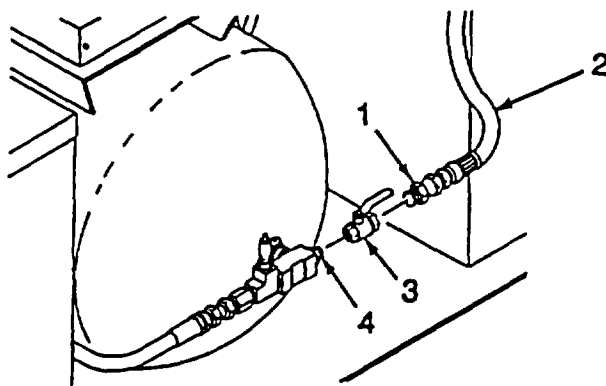

Figure 4-28. Ball Valve
a. Removal. (Refer to Figure 4-28).